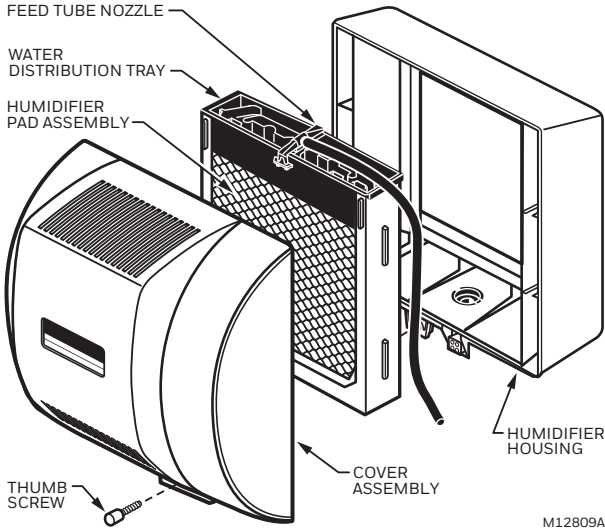

Fig. 18. Cleaning your humidifier.
2. Remove the humidifier cover by unplugging the connector and loosening the thumb screw. Grasp the cover near the bottom and pull toward you. See Fig. 18.